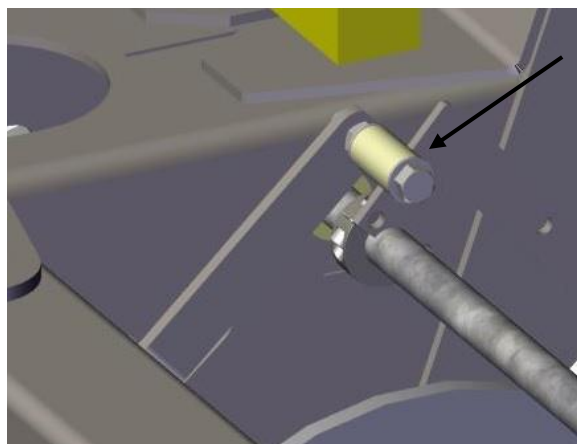

Figure 19
6. Set the remaining tabs until they just touch the roller. The number of tabs will depend on the size of the headers. Figure 19